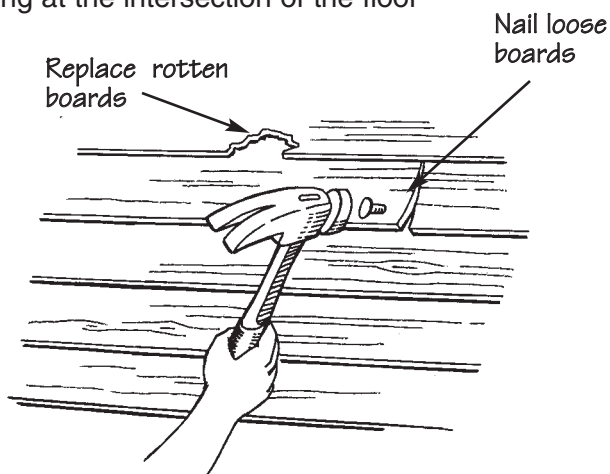

Figure 24.
- Nail down loose boards of existing siding, and replace any rotten ones (Fig. 24). **Do not install vinyl siding over rotting wood.**